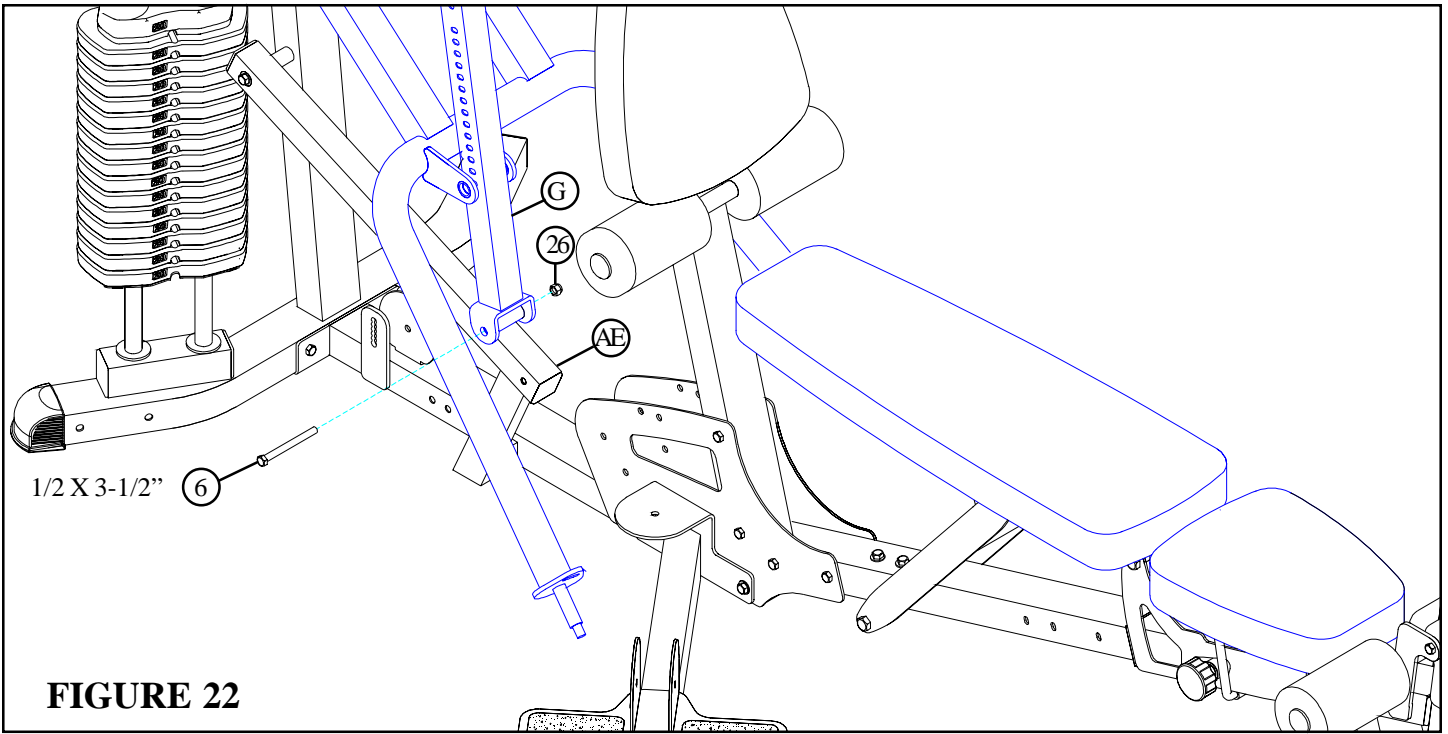

FIGURE 22
- **SECURELY** assemble the PRESS ARM ADJUSTMENT (G) to the PRESS LOAD ARM (AE) using one 1/2 X 3-1/2" BOLT (6) and one 1/2" LOCK NUT (26) as shown in FIGURE 22.